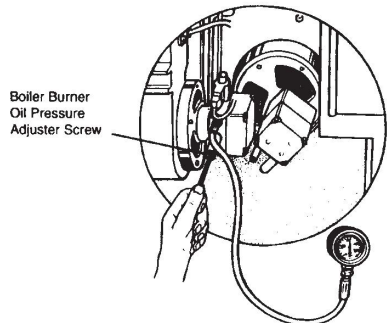

Fig. 9.9
15. After the appliance has achieved its operating temperature, with each burner running, carry out a flue gas analysis for each burner. (See Fig. 9.9).